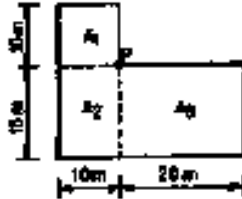

Fig.1
- b) An L – shaped building in plan (Fig.1) exerts a pressure of 75 kN/m^2 on the soil. 8M